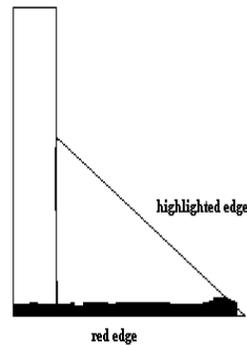

FIGURE 3
2. Line up and tape the red edge of your triangle against the red end of your large pipe. See Figure 3.